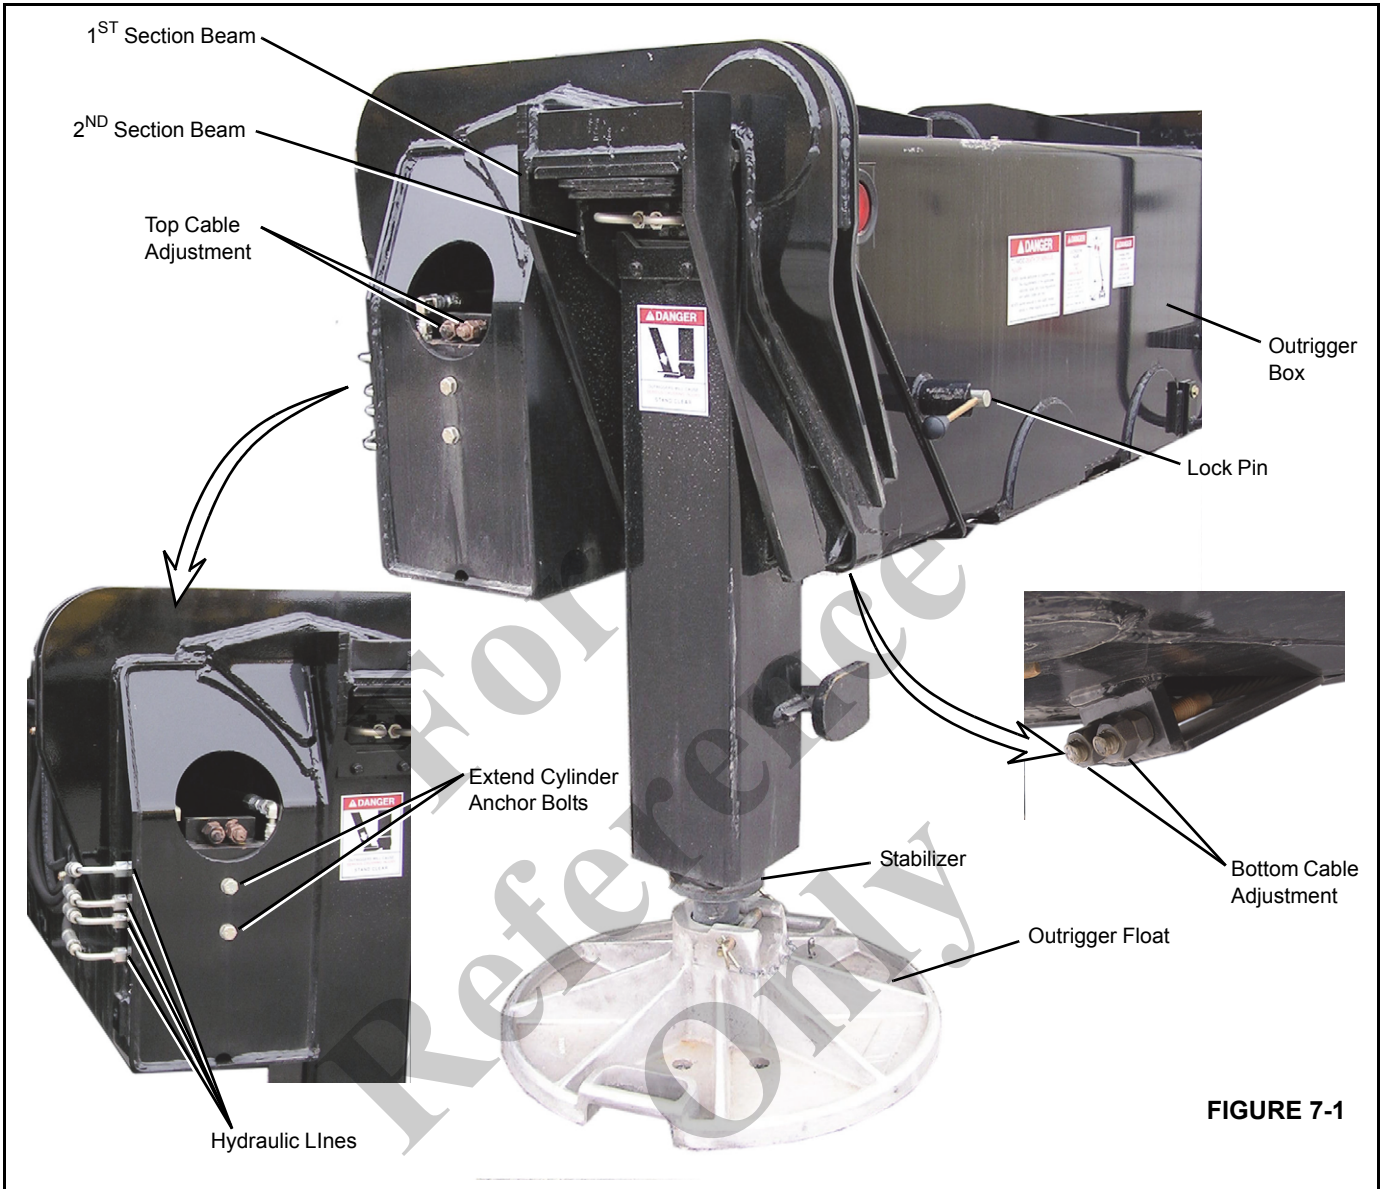

FIGURE 7-1
4. Remove the hydraulic lines from the base of the extend cylinder (Figure 7-1).